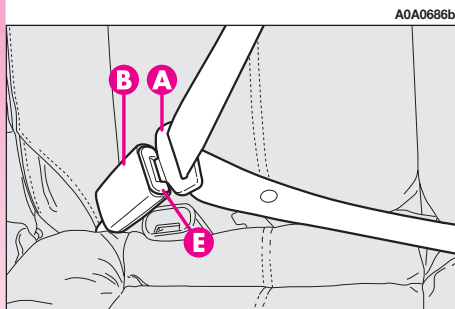

fig. 37
To fasten the belt: gently pull the belt from its reel and guide the tape to prevent it from twisting, then insert the tongue (A-fig. 37) into the buckle housing (B).